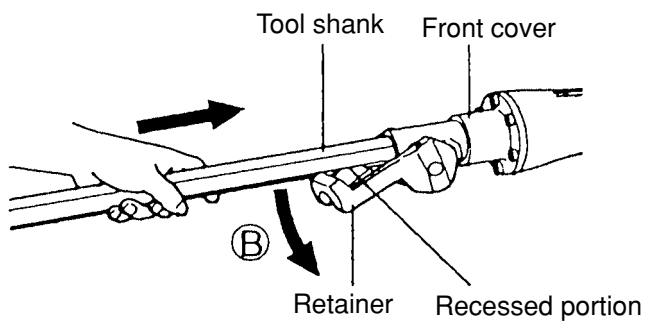
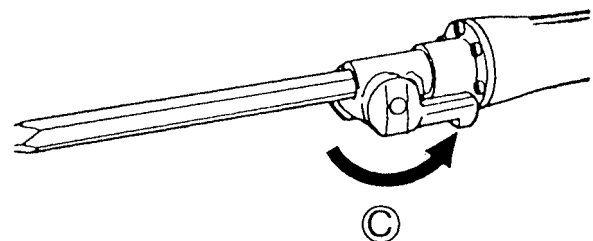

Fig. 10
Fig. 11
- (2) Mounting standard hex. shank tool and retaining groove tool without collar
Lower the retainer in (B) direction and insert the tool shank into the hexagonal hole of the front cover as far as it will go facing the recessed portion of the tool shank to the retainer (Fig. 10). Turn the retainer in (C) direction to fix the tool shank (Fig. 11).